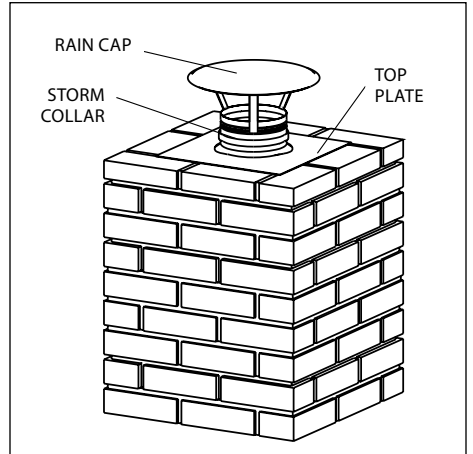

Figure 16
3. Slip the Storm Collar portion of the Rain Cap over the liner, position it over the Top Plate and tighten draw band. Reassemble Rain Cap (**Figure 16**).